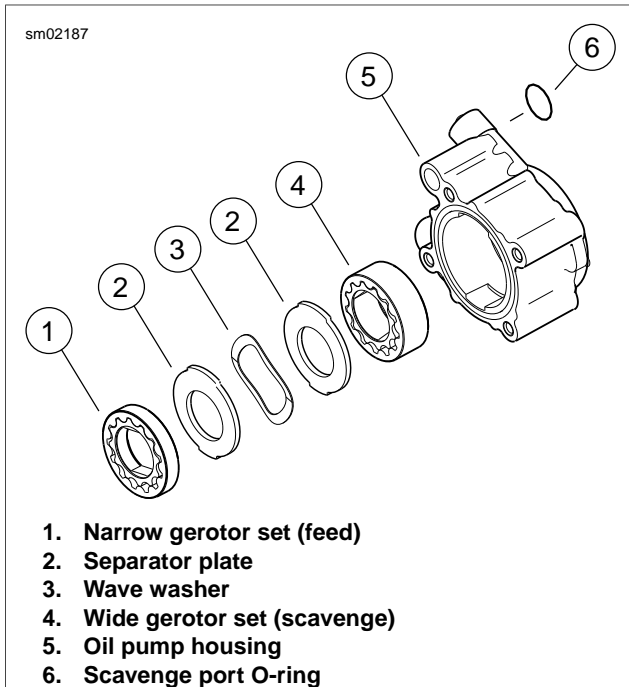

Figure 3-63. Assembling Oil Pump
16. See Figure 3-63. Assemble and install oil pump. Lubricate parts with clean H-D 20W50 engine oil during assembly.
- a. Apply a very thin film of clean H-D 20W50 engine oil to **new** scavenge port stub o-ring (6). Install **new** o-ring on scavenge port stub of oil pump housing.
- b. Slide oil pump housing (5) onto crankshaft fitting o-ring on scavenge port stub into crankcase bore at back of cam compartment. Firmly push on scavenge port stub with thumb to be sure that it is snug in bore. Inspect o-ring on stub to verify that it is not pinched or distorted.
- c. Separate the gerotor gears into two sets, one wide (4) (scavenge) and the other narrow (1) (feed).